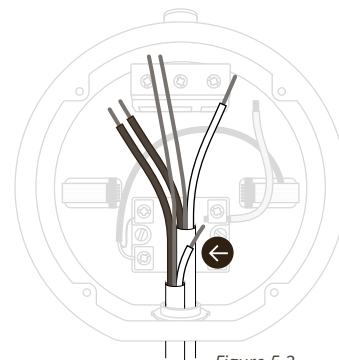

Figure 5.2
6) Trim your existing wiring and align its ends with the extension cable as shown in Figure 5.2.